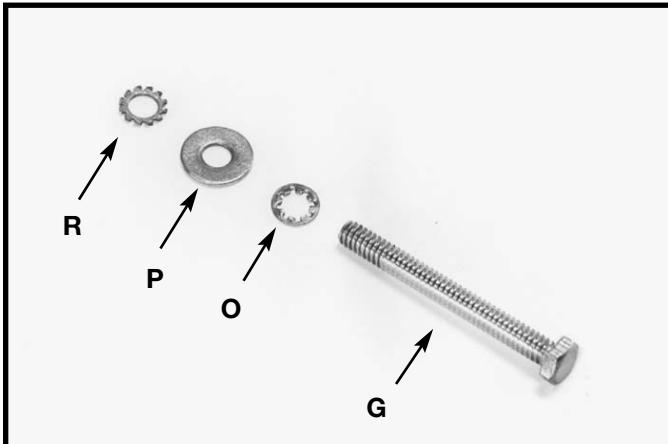

Fig. 18
- Locate the 1/4-20x2 inch hex head screw (G) Fig. 18. Place the 1/4 inch internal tooth lockwasher (O) M6.4 flat washer (P) and the 1/4 inch external tooth lockwasher (R) on the screw (G).